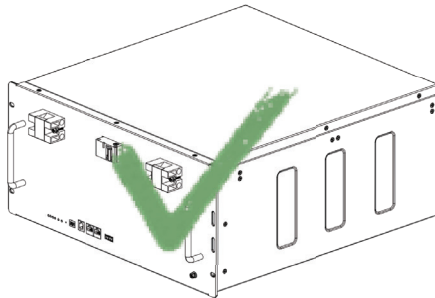

Figure 6-3 Right Way to Place Battery
- The 48V 200Ah series batteries preferred to be installed in flat position as Fig 6-3 shown.